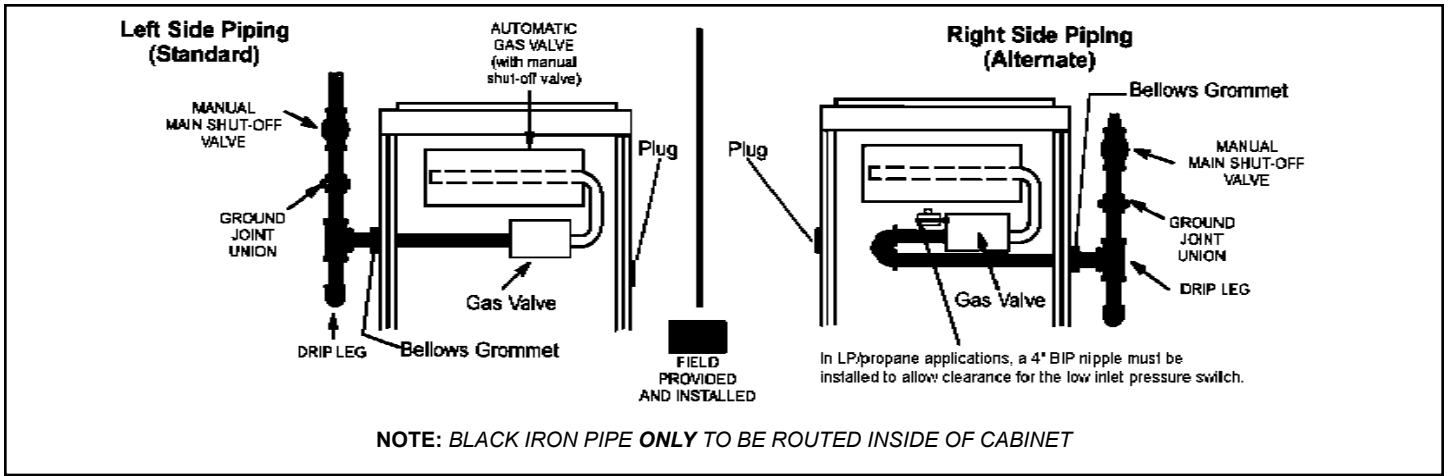
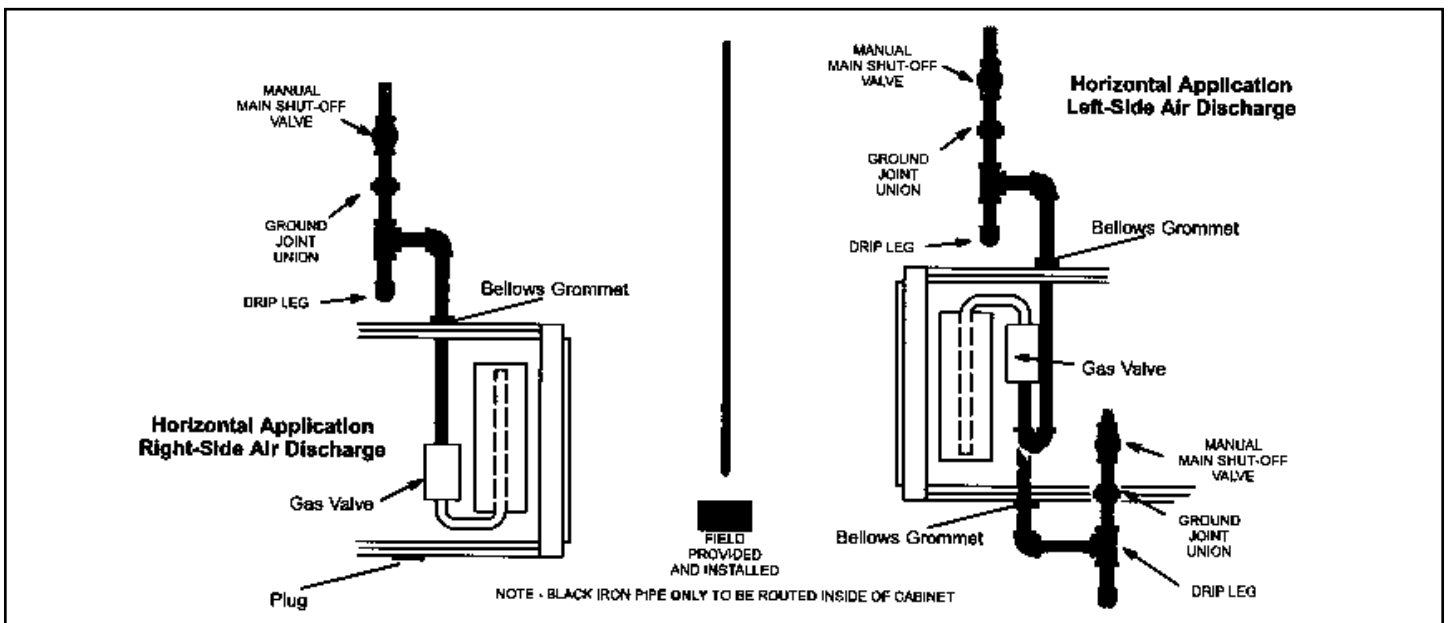

Figure 60. Upflow Applications
Figure 61. Horizontal Applications
1. Gas piping may be routed into the unit through either the left or right hand side. Supply piping enters into the gas valve from the side of the valve as shown in Figure 60 and Figure 61. Move Bellows grommet to side which gas line enters. Ensure opposite gas line hole is plugged with supplied plug.
3. Gas piping must not run in or through air ducts, clothes chutes, chimneys or gas vents, dumb waiters or elevator shafts. Center gas line through piping hole. Gas line should not touch side of unit. See Figure 60 and Figure 61.